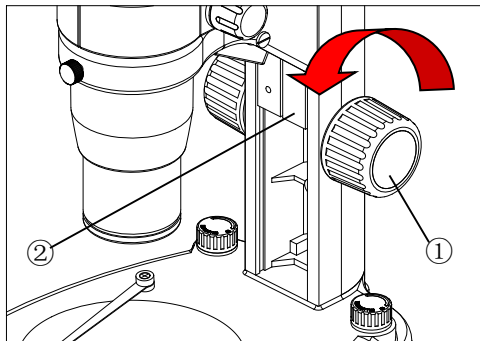
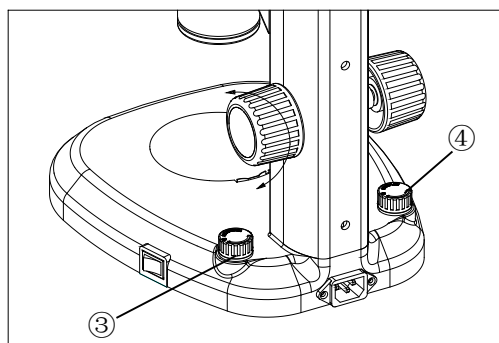

Fig.13
Fig.14
3.2.1. Adjusting the rotation tension of the focus adjustment knob (fig. 13, fig. 14)